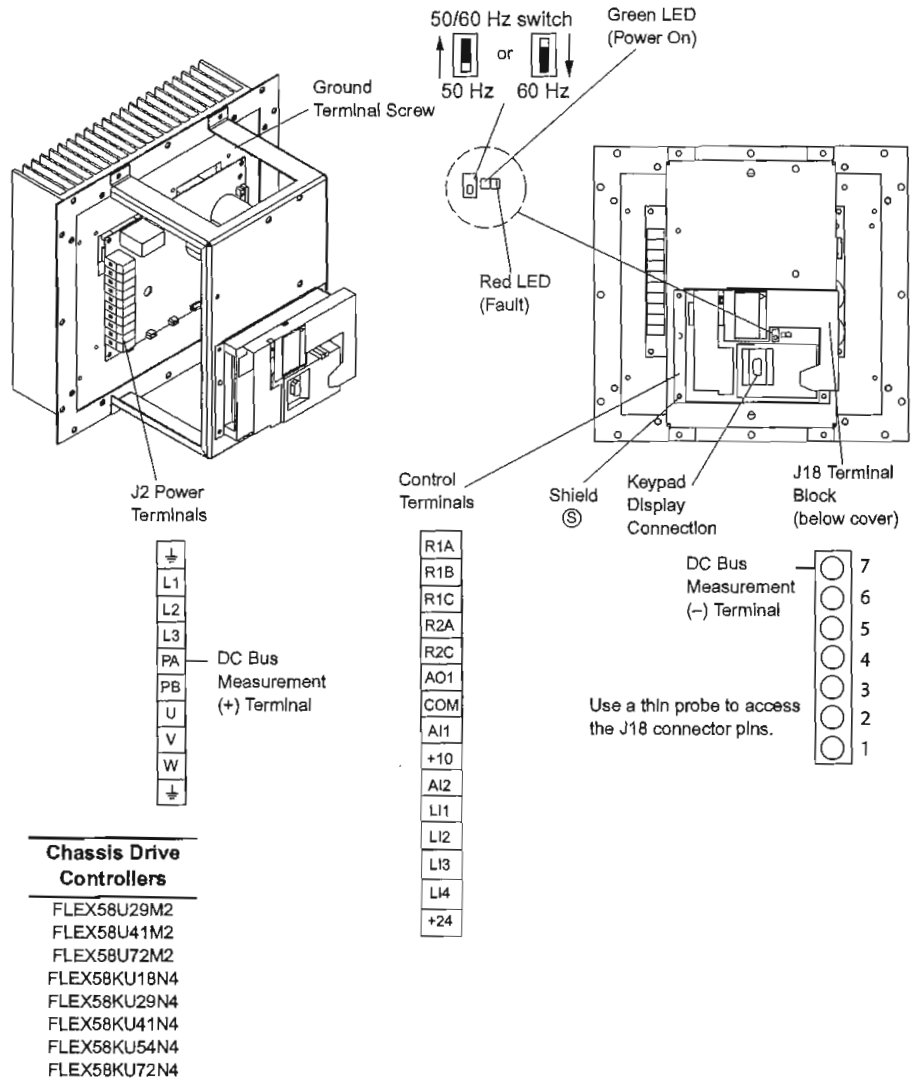

Figure 10: FLEX58U29M2–U72M2 and FLEX58KU18N4–KU72N4
4. Read the model number of the power converter from the nameplate, and identify the corresponding (+) and (-) measurement points from Table 18 and Figures 10 to 13 on pages 36 to 39.